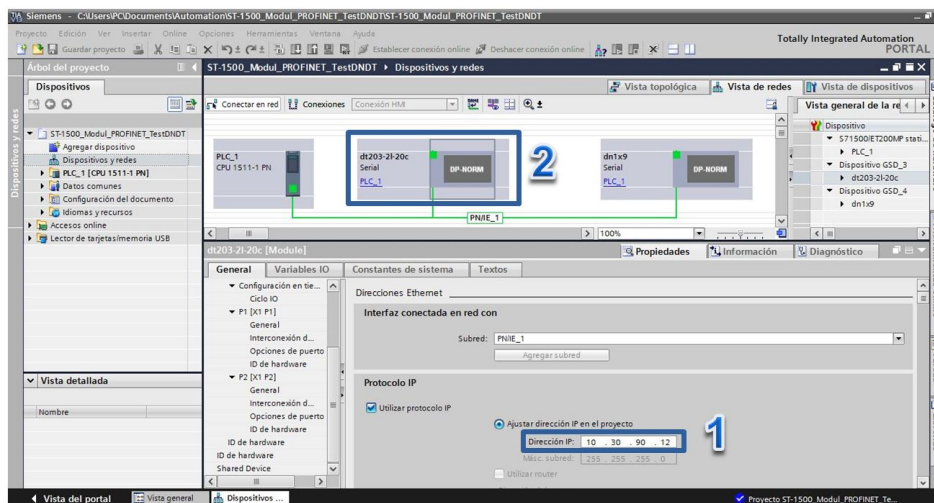

Fig. 9 Define the Displays connection with PLC
To download the configuration to the device, select the network card in the “**PG/PC interface**” field (3) at “**Extended download to device**” window, and establish the identifier of the Profinet network (PN/IE_1 in this example, See Fig. 9) in the “**Connection to subnet**” field (4).